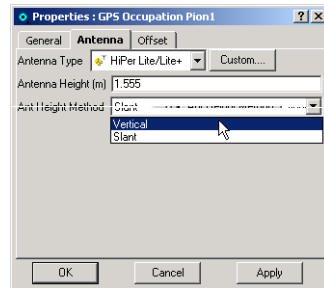

Figure E-30. Edit Antenna Properties
2. Click the *Antenna* tab and enter the new antenna height value (for example, 1.555m). Change the method of measurement for antenna height from slant to vertical (Figure E-30).